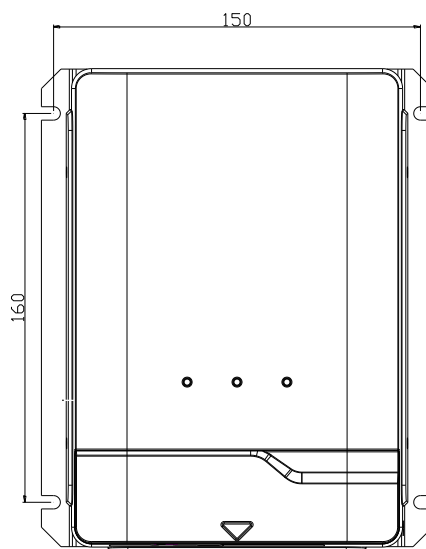

Figure 3-2 Lock Hole
- Ensure the controller is flush on mounting material. Drills the holes based on the lock hole requirements. See Figure 3-2; lock hole size: 160*150mm, 4*φ5.5.